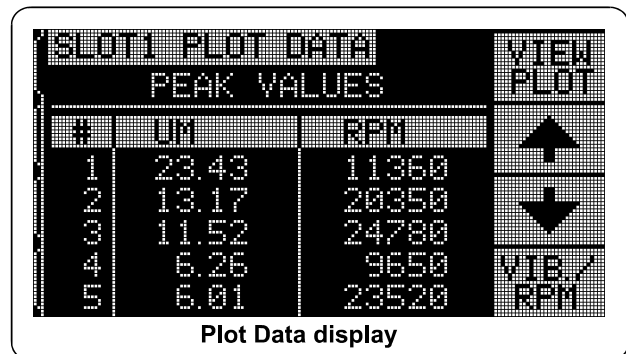

Figure 21
- 1) **VIEW DATA.** Pressing this button will change the display to a listing of peak vibration values (*figure 21*). These are the top 20, or less, values recorded in the selected range. The VIB./RPM button on this screen switches the order of these values, allowing them to be ordered either by vibration level or RPM. The arrow buttons are used to scroll up or down through the peak values. The VIEW PLOT button returns to the screen showing the last recorded graph.